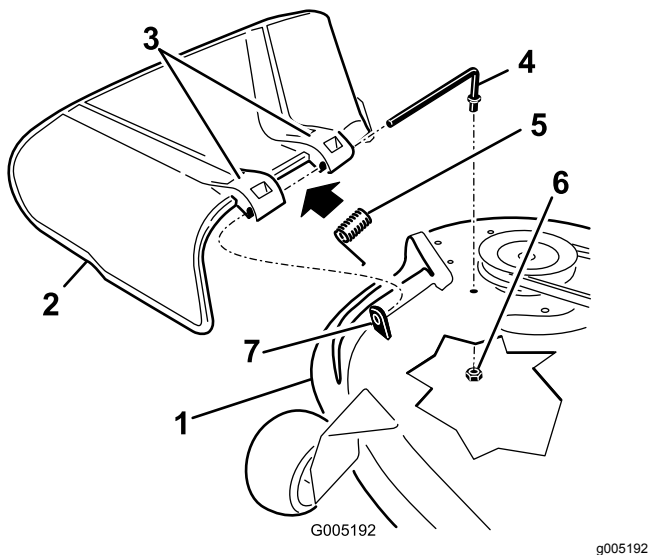

Figure 56
1. Remove the nut (3/8 inch) from the rod under the mower (Figure 56).
7. Slide rod through the second grass-deflector bracket (Figure 56).
9. Secure the rear end of the rod into the mower with a nut (3/8 inch) as shown in Figure 56.
2. Slide the rod out of the short standoff, the spring, and the grass deflector (Figure 56).
4. Replace the grass deflector (Figure 56).